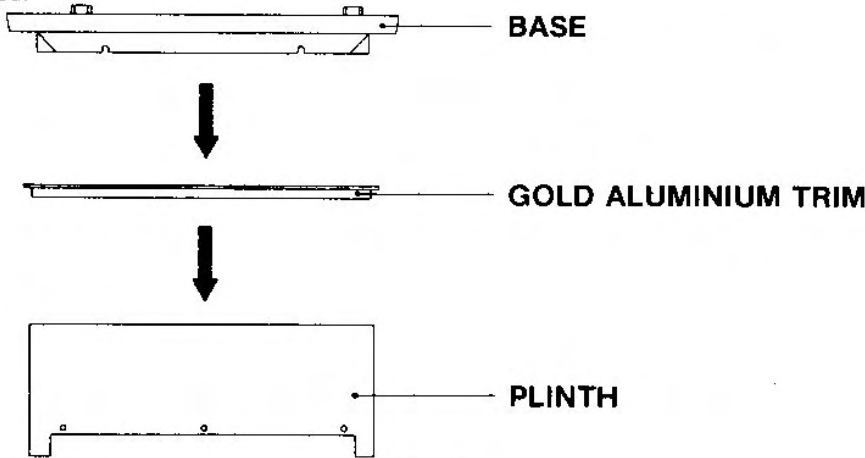

Fig. 3
5. Assemble the plinth, as shown in Fig. 3.